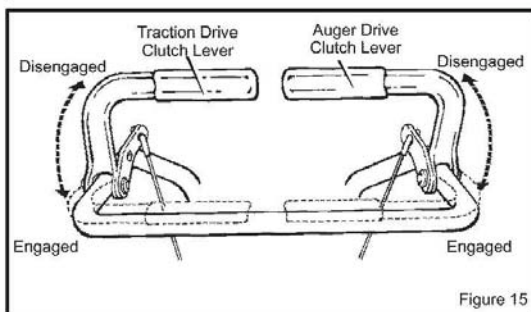

Figure 15
1. Start the engine as described in section "To Start Engine" (see Figure 15).
5. Engage auger drive clutch lever (right hand—Figure 15).
6. Engage traction drive clutch lever (left hand—Figure 15). As the snow blower starts to move, maintain a firm hold on the handles and guide the snow blower along the cutting path. Do not attempt to push the snow blower.
7. To stop forward motion, release traction drive clutch lever (left hand – Figure 15).
8. To stop auger, release auger drive clutch lever (right hand – Figure 15).